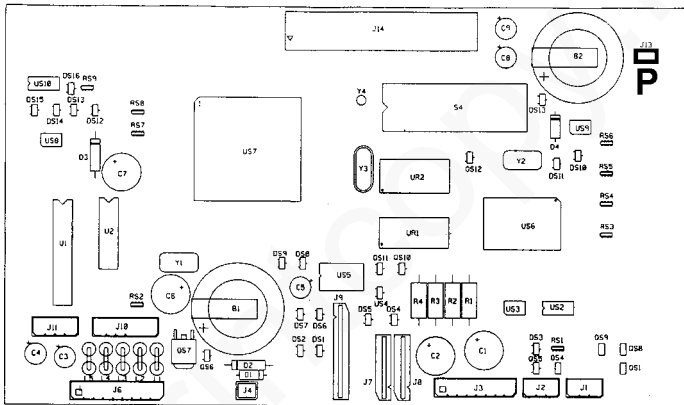

Fig. 7-42
- 1) Remove the motherboard, unplug the short-pin **P** (see fig. 7-42) and plug it again after one second to be sure that the dynamic memory has been cleared